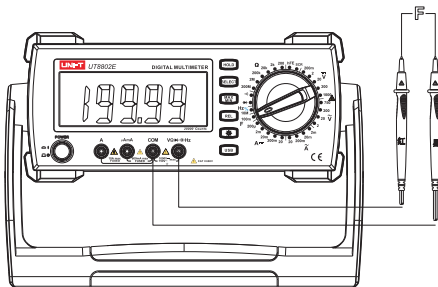

Figure 5
5. Measurement of capacitance (see Figure 5)